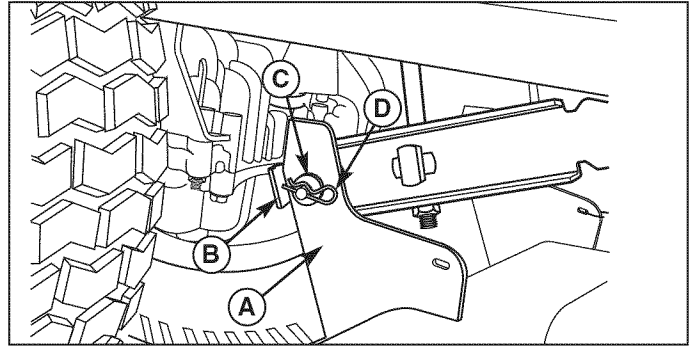

Figure 4. Lift Arms
4. Remove hair pin (D, Figure 4) and washer (C). Disconnect the mower lift plates (A) from the tractor lift arms (B). Re-install washers (C) and hair pins (D) to prevent loss.
4. Re-install hair pins (D, Figure 4) and washers (C) into the mower lift plates (A) and the tractor lift arms (B).